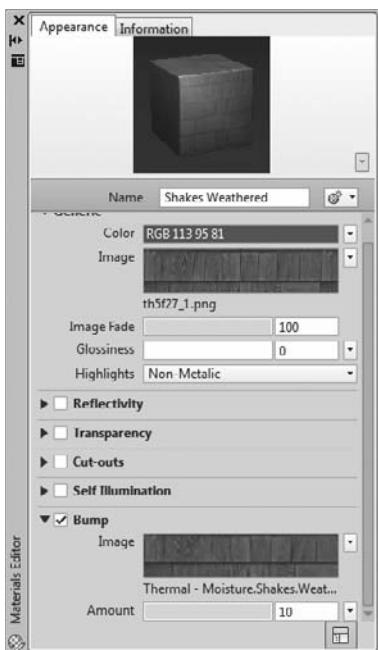

FIGURE 17.31 Changing the amount of bump applied to a material
5. Move the Bump Amount slider to 10 (see Figure 17.31).